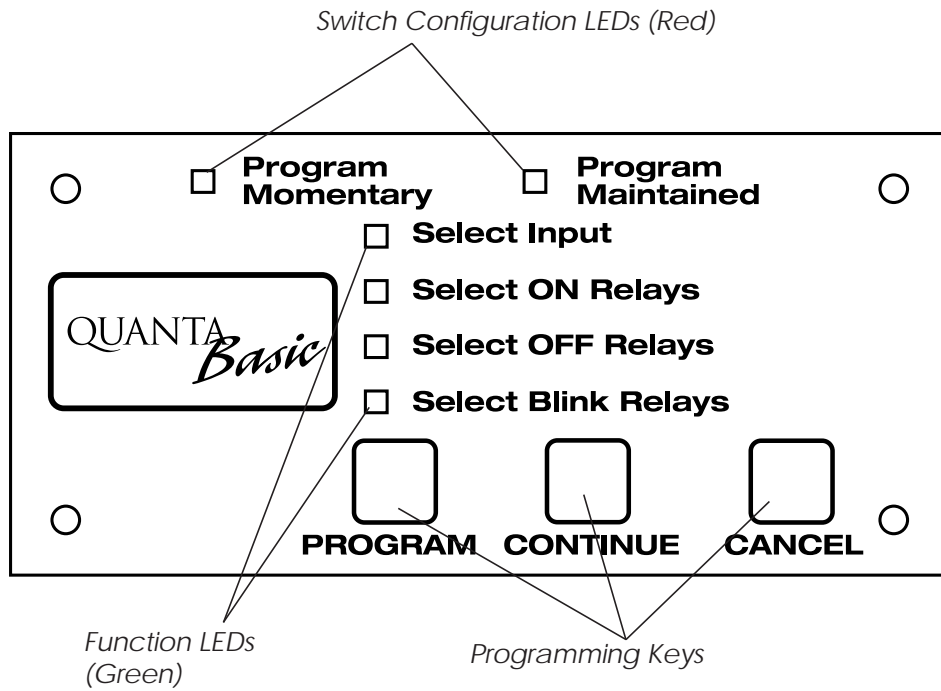

Figure 1.4 – QUANTA Basic keypad
1.1.5 Basic keypad – (See Figure 1.4.) The Basic keypad provides you with access to program controller data. It consists of a tactile response keypad. The Basic keypad is mounted to the CPU I/O board.